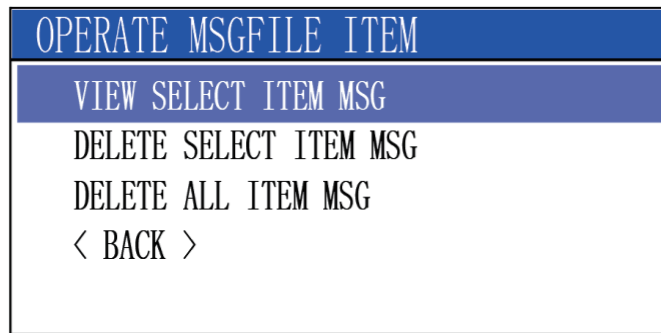

Figure6.4
- b:Rotate the [CHANNEL] knob (you can also use the [3] and [9] number keys to ture pages)to select the call to operate,and press the [ENT] key to open the operation dialog box,as shown in Figure 6.4